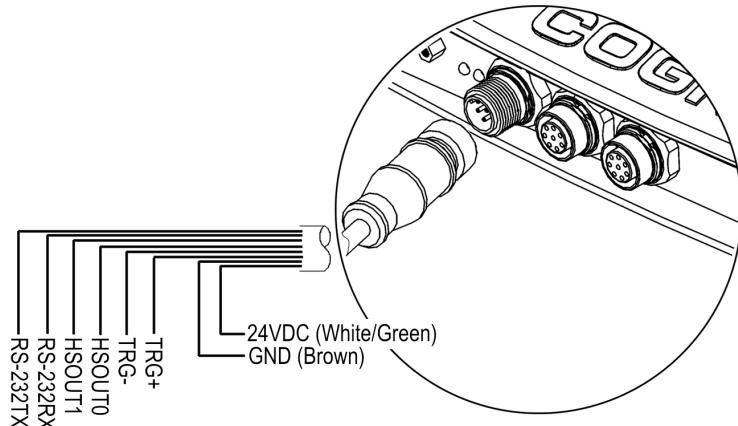

Figure 2-4: Power Connections
5. Verify that the 24VDC supply is not receiving power, and then connect the power supply to the 2-pin terminal plug on the Breakout Cable. Attach the Breakout Cable to the **24VDC** connector on the sensor (Figure 2-4).